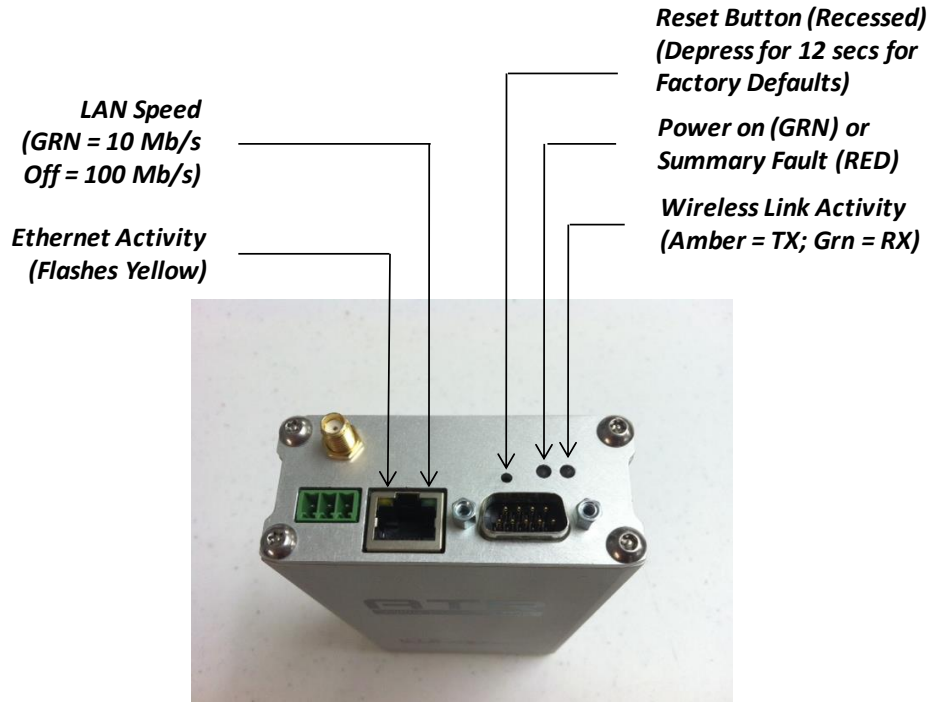

Figure 4: ATR LEDs and definitions
4. Once the power is supplied to the ATR, observe that the green power LED is illuminated. It takes about 7-10 seconds for the ATR to boot-up. After this, only the green power LED should be on. Figure 4 summarizes the LEDs and their meaning.
7. **The default IP address of the ATR is 192.168.1.4**. This address is automatically loaded in the Connect to field at the top. Click on the GET button at the bottom if this default address is still loaded in the ATR and not been changed. **Note: Pressing and holding the recessed Reset button (See Figure 4) for at least 12 seconds will force the radio back to its default settings. The default radio IP address is 192.168.1.4.**
Noise Figure 4 dB